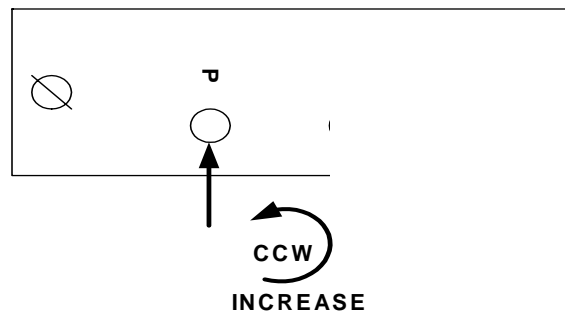

Figure 1-16. Particle Channel Adjustment
q. **Particle Channel Adjustment:** (refer to Figure 1-16).
- 2) Adjust: “P” pot as shown in Figure 1-16 to increase or decrease data value.